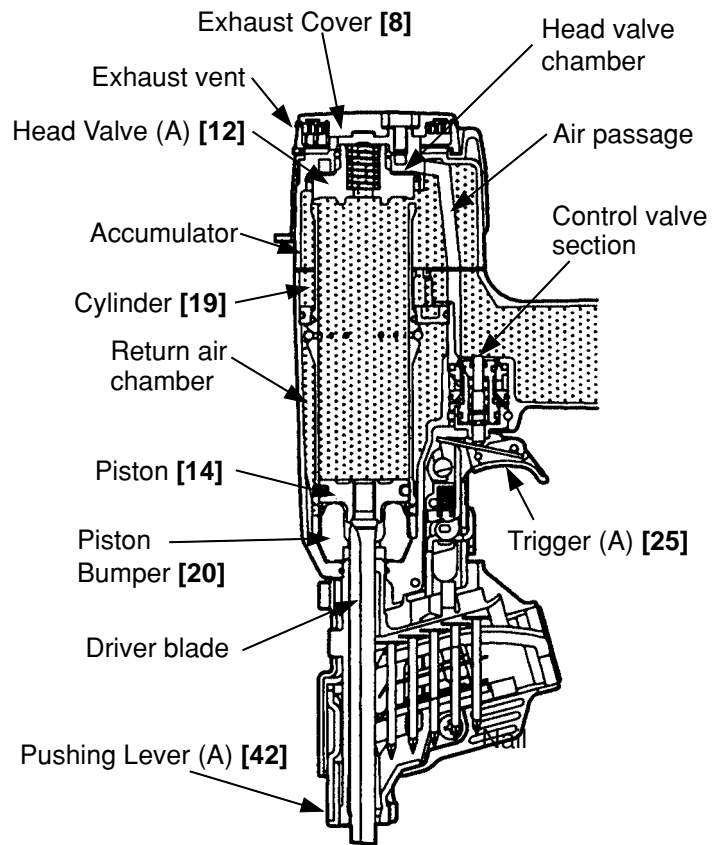
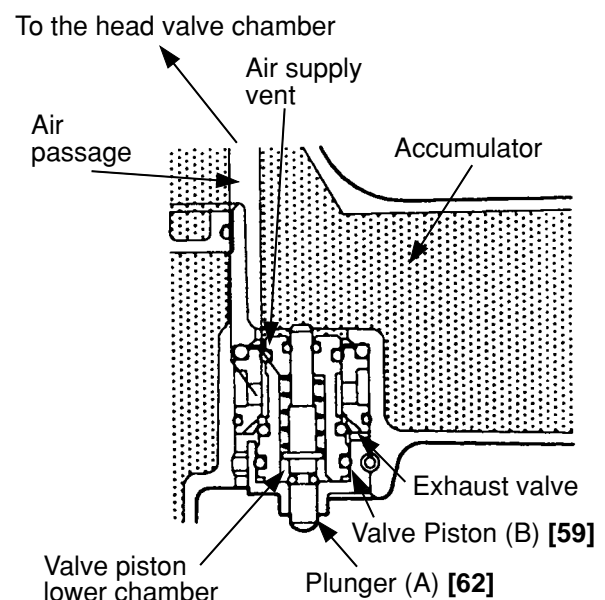

Fig. 7
Fig. 8 Control valve section
(3) During return: (Fig. 7 and Fig. 8)